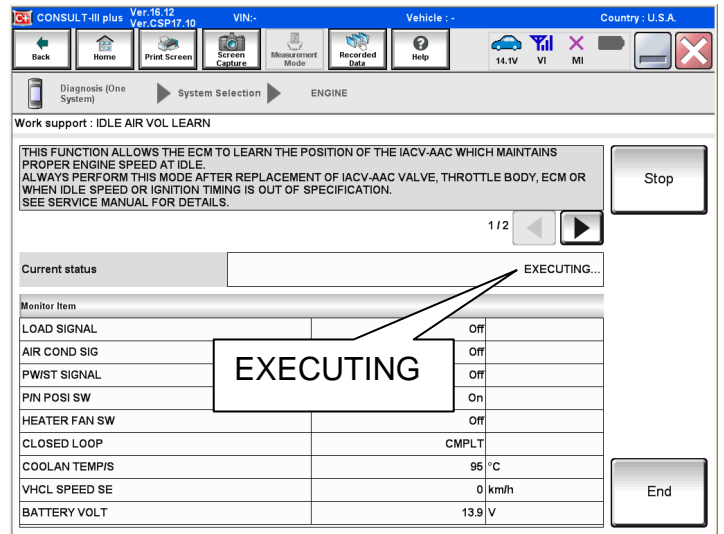

Figure 4
- CIII plus will display “EXECUTING” in the “Current status” box while the IAVL procedure is in process. See Figure 4.